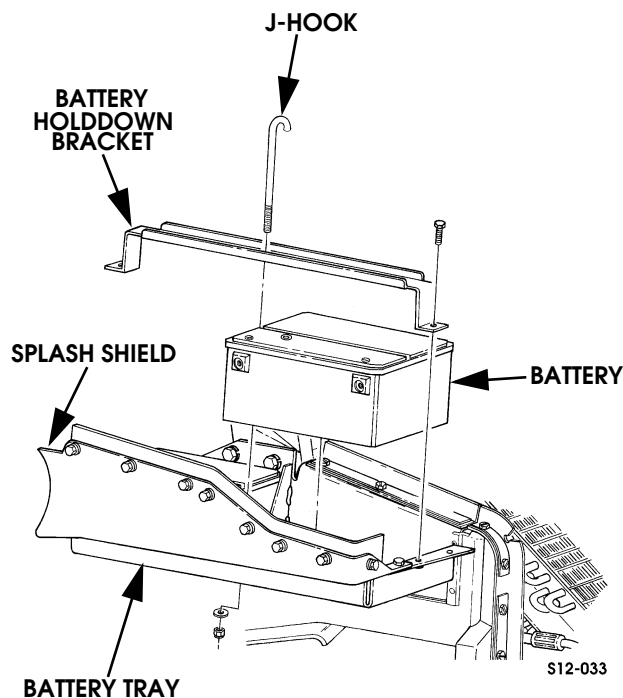

Figure 12-30: Battery Removal/Installation
2. Remove J-hook, and holddown bracket bolts (Figure 12-30).
6. Install one or both batteries in tray (Figure 12-30).